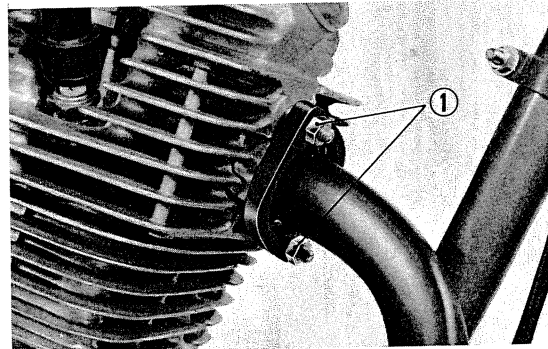

Fig. 24 ① 6mm hex. head nut
- 2) To disassemble the exhaust pipe, remove the two exhaust pipe retaining nuts. (Fig. 24)